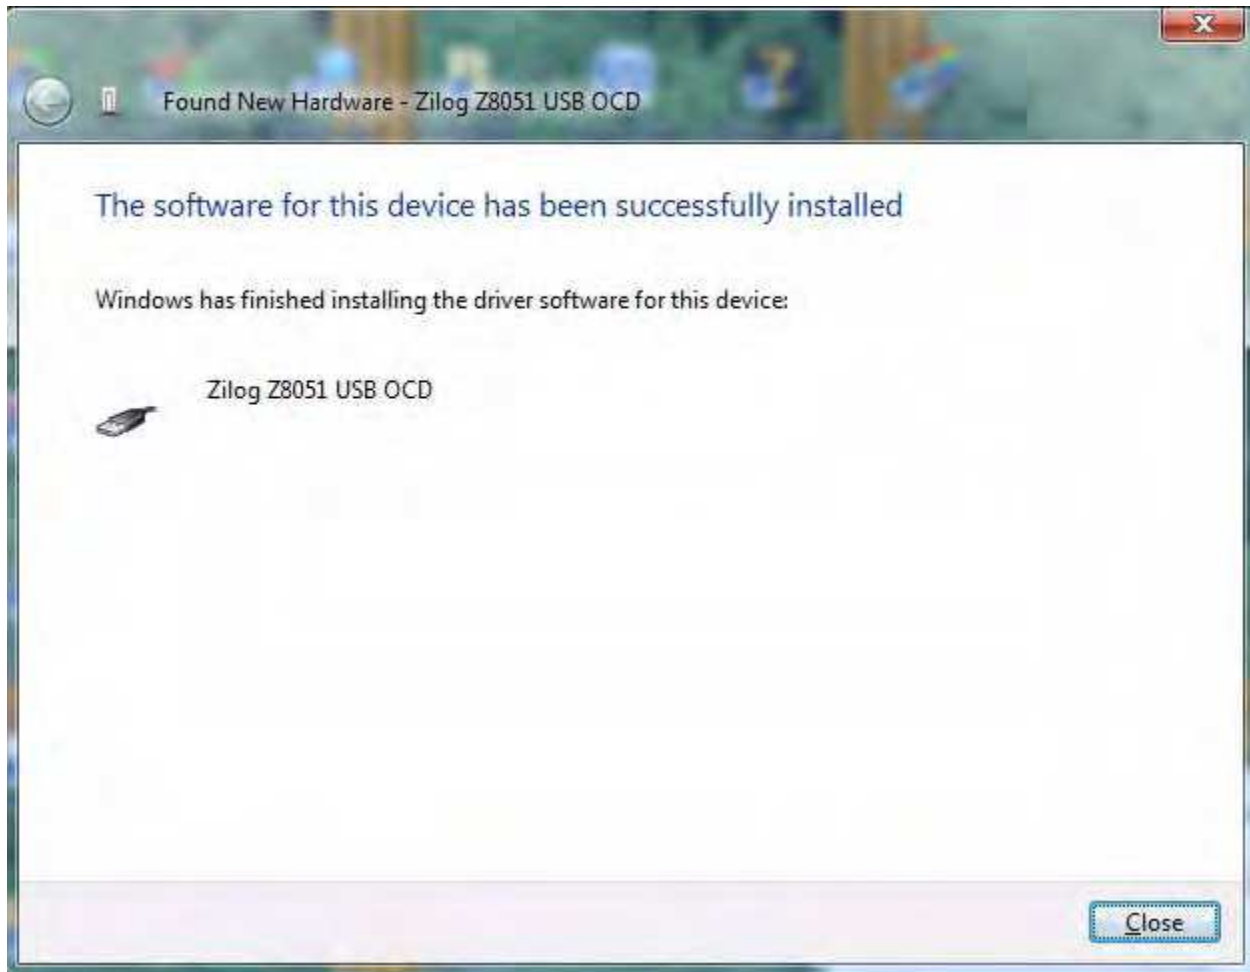

Figure 10. Successfully Installed Dialog, Windows Vista
5. When the installation is complete, the screen shown in Figure 10 will appear. Click **Close** to exit the OCD driver installation.
► **Note:** On some installations, the Found New Hardware screen shown in Figure 10 may also display the text string, *Zilog Z8051 USB OCD - No Firmware*. This occurrence is normal and can be disregarded.